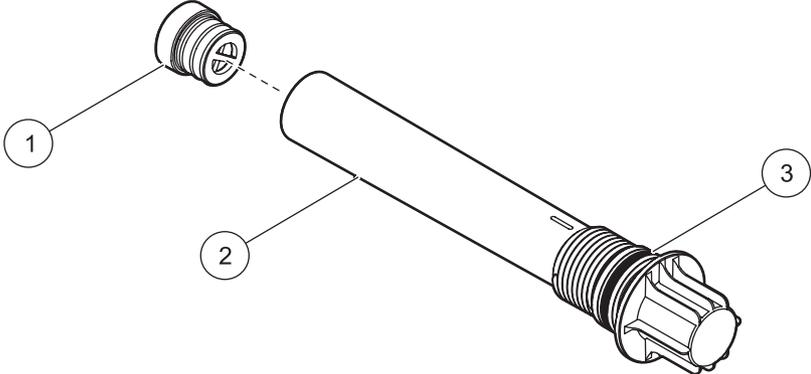

Figure 30 Desiccant holder
2. Remove the plug from the end of the desiccant tube (Figure 30) and discard the spent desiccant.
5. Apply grease to the O-ring (Figure 30).